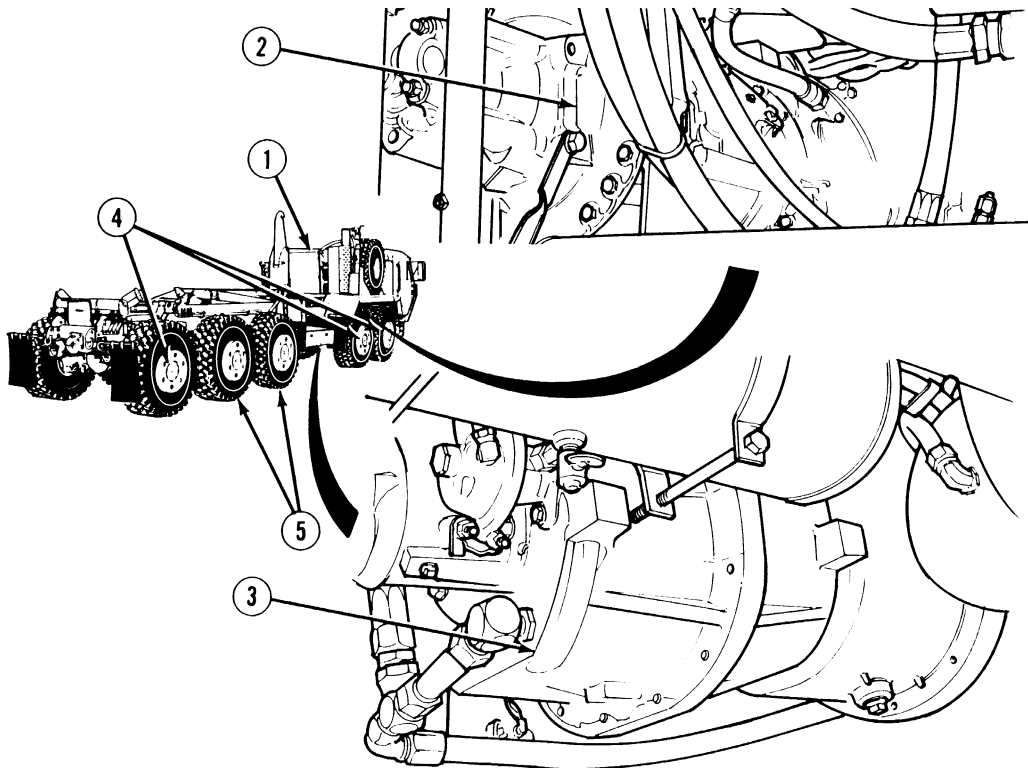

Figure 1-5. Power Train
Power for the truck is provided by a diesel engine (1) (Figure 1-5) which is coupled directly to an automatic transmission (2). Power from the transmission is transferred to the transfer case (3) and on to the drive and steering axles (4) and the drive only axles (5) through a series of drive shafts and universal joints. The truck drive train is enhanced through the use of the Detroit Diesel Electronic Control II (DDEC II) or Detroit Diesel Electronic Control III (DDEC III) electronic engine controller and the Allison Transmission Electronic Control (ATEC) electronic transmission controller. The primary components of the ATEC system are an Electronic Control Unit (ECU) and shifter in the truck cab, an electrohydraulic valve module beneath the transmission gearing section that contains solenoid valves for clutch control, a throttle sensor that is activated by the accelerator pedal and an output speed sensor that relays the transmission out speed to the ECU for shifting and control functions.
(1) The DDEC II and DDEC III contain a microprocessor-based electronic control module to regulate the electronic distributor unit. This distributor unit controls the individual or unit injectors that regulate both the amount and timing of fuel delivery. The DDEC II and DDEC III electronically govern engine speed and can be programmed to accommodate truck configuration changes. The DDEC II and DDEC III are electronically linked with the transmission, through the ATEC, to improve truck performance.
(2) The DDEC and ATEC systems perform self diagnostics, engine/transmission system diagnostics and truck performance diagnostics. Self diagnostics includes personnel initiated checks of main electronic components such as solenoids, wiring, sensors and control modules. System diagnostics monitor critical engine and transmission parameters such as oil temperature, oil pressure, coolant temperature, voltage and gear range attained. Truck performance diagnostic capabilities aid the mechanic in isolating problems outside of the electronic control system. Operating data is stored in the DDEC II's and DDEC III's memory for display at a later time. Stored data includes total engine hours and fuel consumed. The DDEC also tracks intermittent problems by logging the number of occurrences and the engine hours of each occurrence.